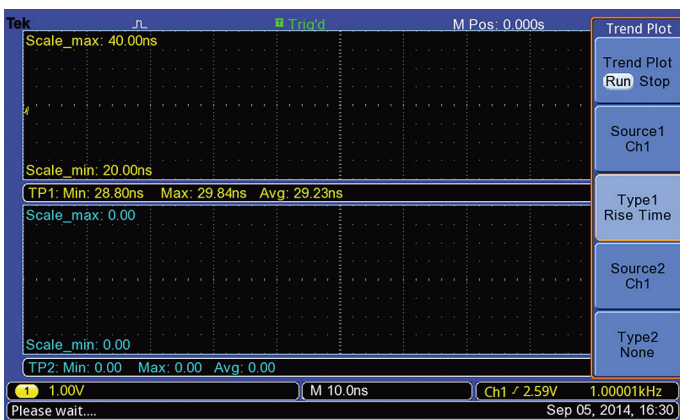

Figure 4. Plot starts at the left side of the display. "Min", "Max", and "Avg" values of the rise time are updated with each new measurement.
10. Press the "Trend Plot Run/Off" bezel button again to re-start the Trendplot. Increase the temperature of the power controller slowly from min\_T to max\_T, while the voltage is held steady, until the rise time reaches the maximum value the system allows. The final temperature is the maximum that results in an acceptable rise time (see Figure 4).